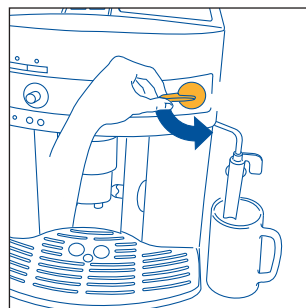
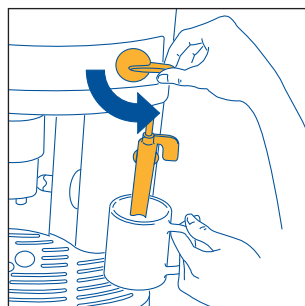
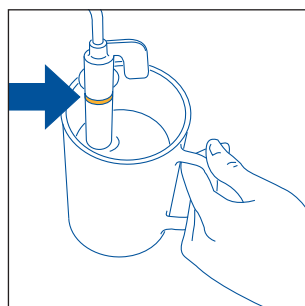

Fig.5
Fig.23
Fig.24
3. **IMMEDIATELY AFTER, WITHIN A MAXIMUM OF 30 SECONDS**, turn the steam knob anticlockwise until it stops (Fig.5) (it is normal for the machine to make some noise).
- Turn the steam knob half a turn in anticlockwise until it stops (Fig. 5): hot water will come out of the milk frother and start to fill the container underneath.
- **Immediately after, within a maximum of two minutes** (otherwise the machine automatically returns to the coffee function), dip the milk frother into the container of milk (Fig. 23), making sure not to immerse the line in relief on the milk frother (indicated by the arrow in Fig. 24) and turn the steam knob half a turn anticlockwise until it stops (Fig. 5). *(Be careful, to avoid being scalded).* The steam released will make the milk froth and increase in volume. To make creamier foam, dip the milk frother into the milk and rotate the container with slow movements from the bottom to the top (you are recommended to limit steam delivery to no more than two minutes at a time).
- Release a little steam for a few seconds by turning the steam knob anticlockwise until it stops (Fig. 5).